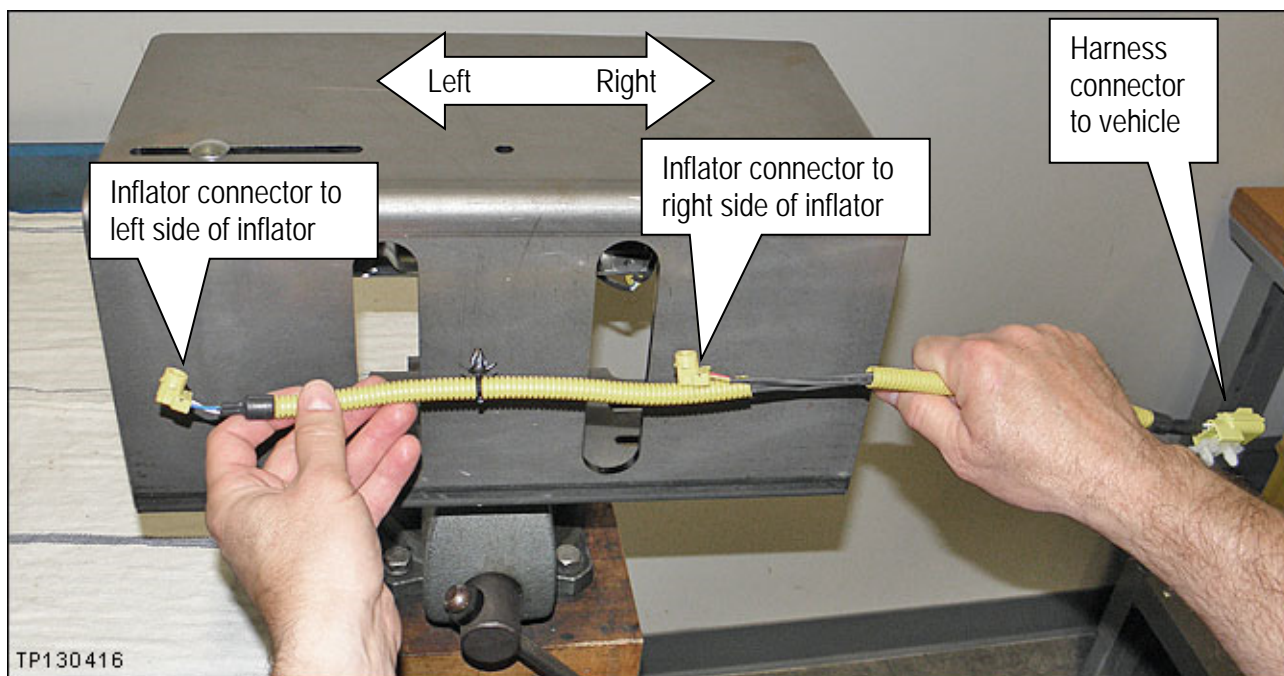

Figure M17
- **Make sure to attach the connectors to the correct ends of the inflator (see Figure M17).**
- Left / Right orientation is as shown in Figure M17.
- Make sure to attach the correct ends (see Figure M17 on the previous page).
- Refer to Figures M17, M18, M19, and M20.